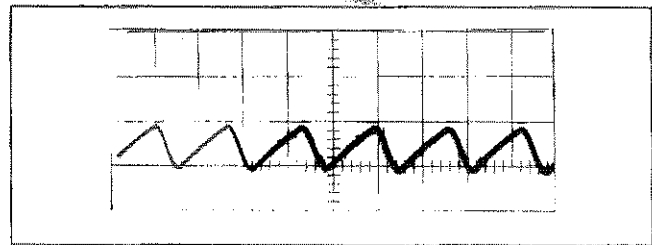

FIGURE 8. Typical Ripple Obtained for the 26 Volt Supply. The scale is 1 volt per division vertical, and 5 milliseconds per division horizontal.
2. Connect the AR101 Model 301 Amplifier input (Figure 8) to a Model 610C Electrometer. Use an adapter or cable with a Keithley Type CS-178 jack on the end for connection to the AR101 Input. Operate the Model 610C in Normal mode on the 10×10^9 ohms range. With the + INPUT ZERO CHECK Button fully depressed or in LOCK, the Electrometer meter should indicate zero.
3. Figure 8 shows a typical ripple obtained for the 26 volt supply.